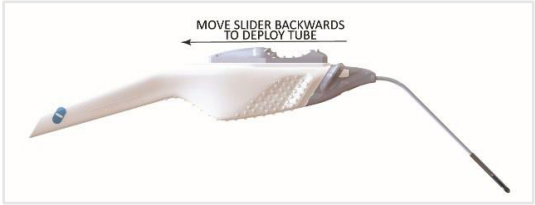

Figure 6 - Slider Movement
4. Move the slider located on the device handle backwards away from the tip (see Figure 6) to retract the cutting sheath and position the tympanostomy tube across the TM. Continue to move the slider through its full range of motion to fully retract the cutting sheath.